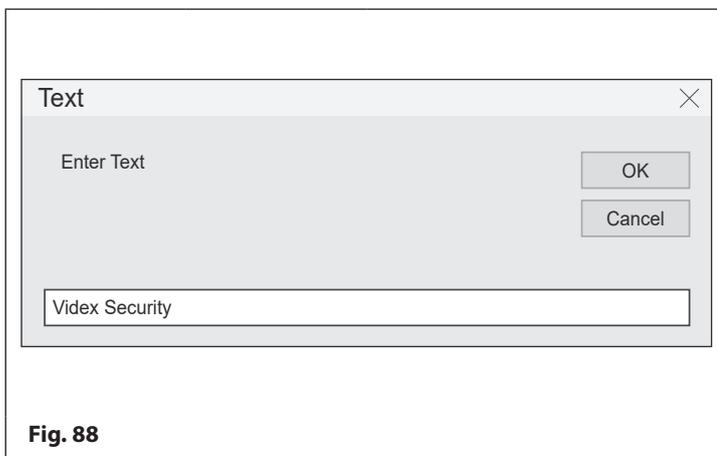

Fig. 88
- Once the desired position has been located click the left mouse button and the text window will appear, as shown in **Fig.88**.